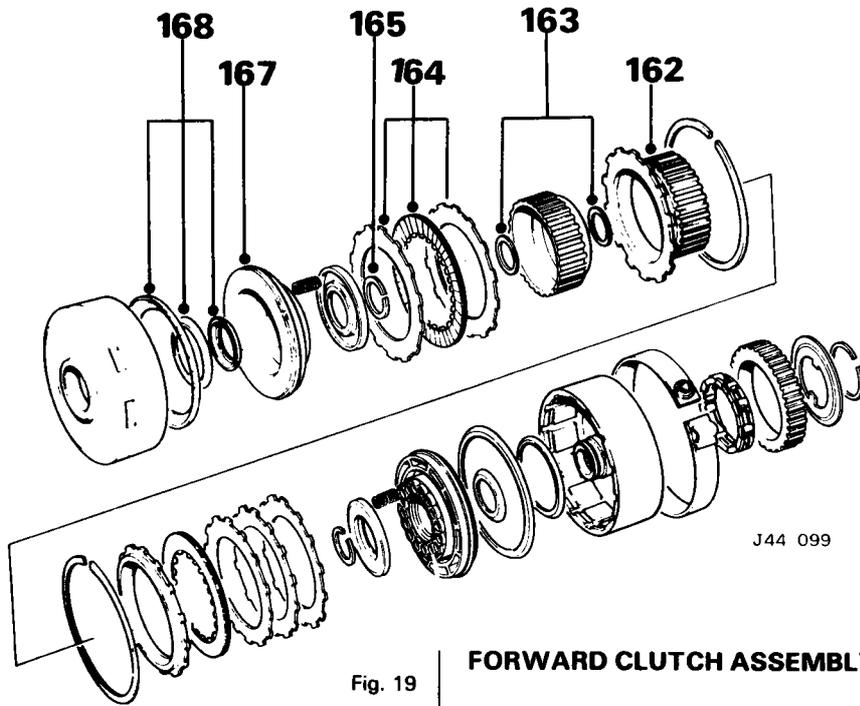

Fig. 19
- 162. Remove the direct clutch hub (Fig. 19).
- 163. Remove the outer thrust washer, forward clutch hub and inner thrust washer (Fig. 19).
- 164. Remove the five composition and five steel clutch plates (Fig. 19).
- 165. Press the input shaft out of the forward clutch drum and using service tool 18G 1016, compress the spring retainer and remove the snap-ring (Fig. 19) securing the forward clutch piston assembly to the housing.
- 167. Remove the forward clutch piston (Fig. 19) from the forward clutch housing.
- 168. Remove the seals from the piston (Fig. 19).